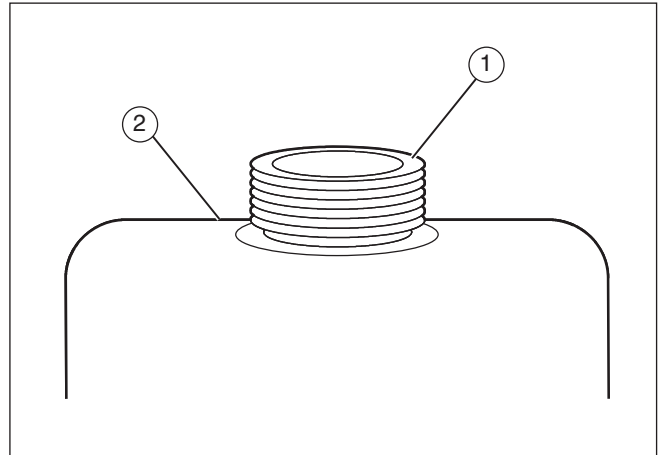

Figure 17
1. Fill the fuel tank to the FULL position with regular unleaded petrol (see Figure 17). Do not use premium unleaded petrol. Make sure the petrol is fresh and clean. Leaded petrol will increase deposits and shorten the life of the valves.